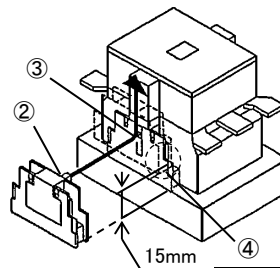

Fig.3
- 辅助触头单元的突起部②插入交流接触器的导向孔③，沿箭头方向滑动大约 15mm，把辅助触头单元嵌入交流接触器的槽④。(Fig. 3)
- Put the projection ② of auxiliary contact unit into the dent ③ of contactor. Slide the auxiliary contact unit about 15mm, and the auxiliary contact unit will be fit into the groove of contactor. (Fig. 3)